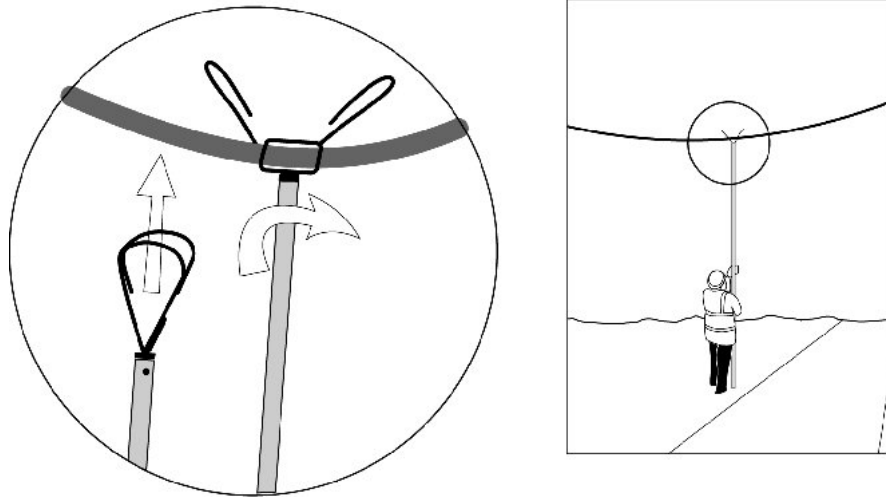
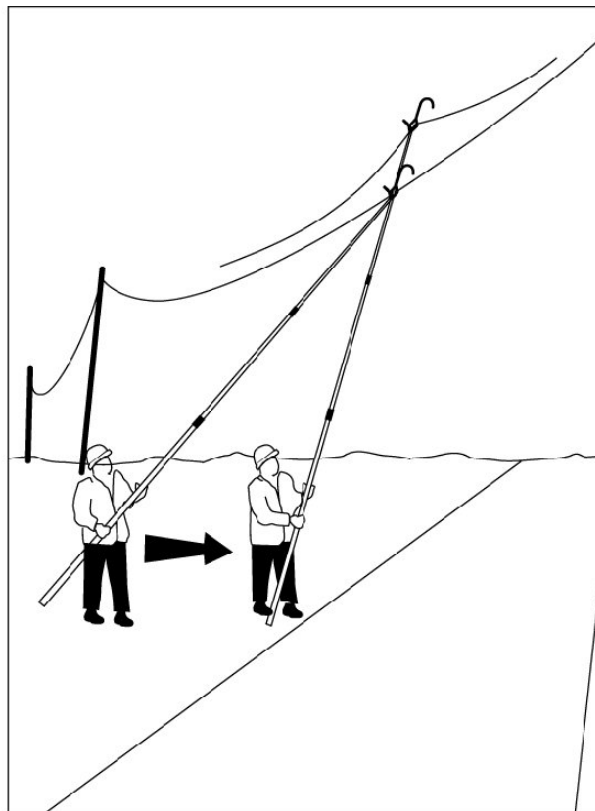

Figure 2 – Application Head
Figure 3 – Raising cable
For installations where a dropwire is to be installed through trees, it is recommended to measure the distance the dropwire will pass through the tree and pay out the dropwire from the dispenser. Place pieces of tape to mark start and finish points on the dropwire lengths as in Figure 1. Fit the PCA to the dropwire (Figure 2) and tape the ends to stop the PCA getting stuck in a Pulley Dropwire 5 during installation. Rewind the dropwire on to the dropwire dispenser (Figure 3).
- Position the two hooks on the head both side of the cable and turn the rod 90° clockwise to capture the cable as shown in **Figure 2**. This will retain the head on the cable.
- Rest the rod on the cable using the attachment head and extend the rod to required length. See **Figure 3** position A
- Holding the rod at a comfortable position walk towards the cable until rod is vertical, ensuring that the cable is caught in the 'V' groove of the attachment head and checking ground conditions underfoot. See **Figure 3** position B